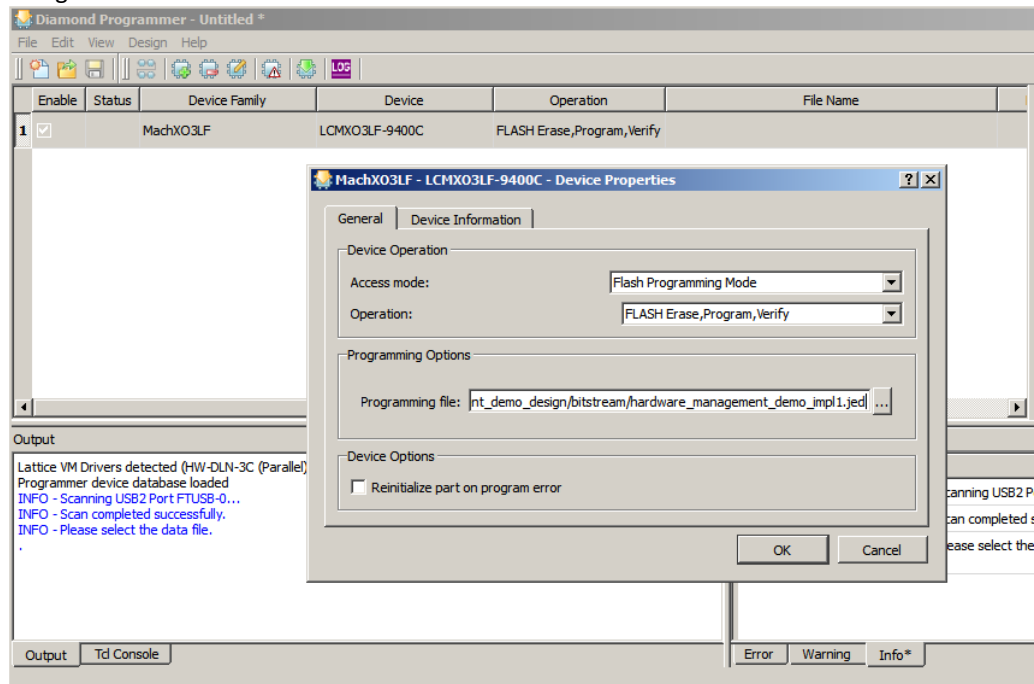

Figure 8.6. Setting MachXO3 Device Properties
1. Right-click on the device and select **Device Properties** in the context menu. Then set device properties as shown in Figure 8.6.